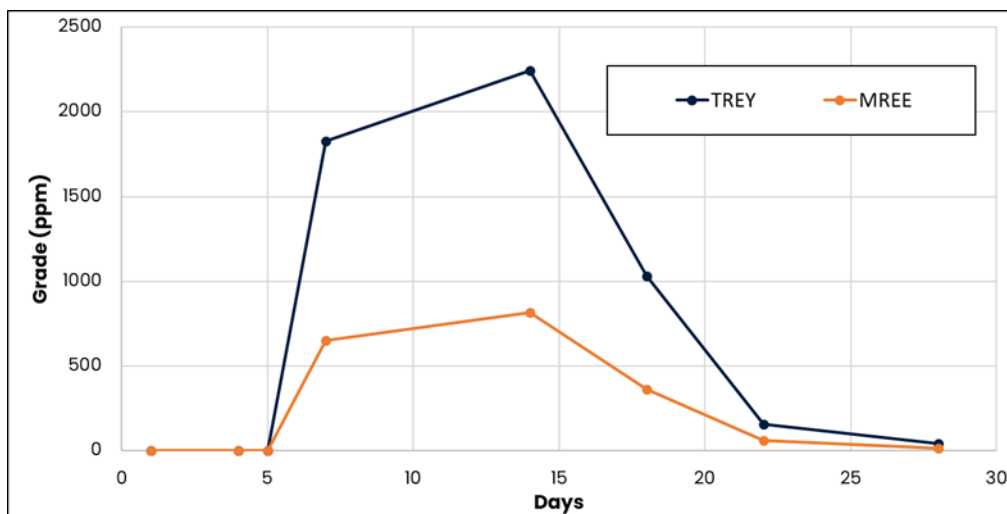

Figure 1. Solution concentration of rare earth elements in (ppm) over the 28-day test period.
- <2 pore volumes (the ratio of the material's air volume to total volume) required to achieve final recoveries (Figure 1.)